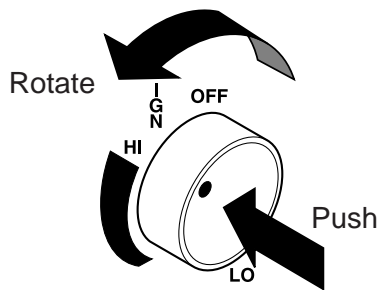

Figure 34 - HIGH Position
10. Push in control knob and turn counterclockwise  to the HIGH setting. At this location the control knob will pop out when positioned correctly. The knob can now be positioned at any position between HIGH and LOW. Refer to *Figures 34 and 35*.